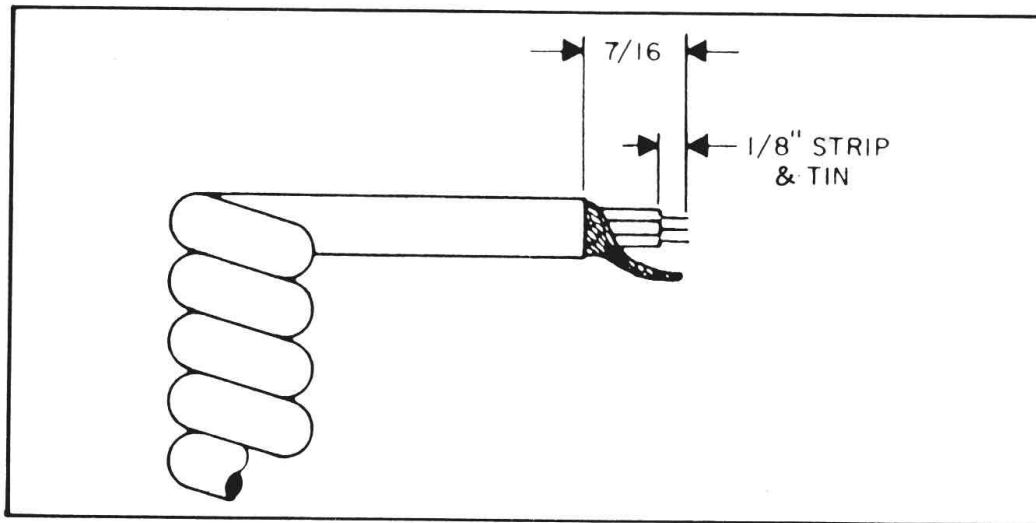

Fig. 1. Microphone cable preparation.
1. Cut leads so that they extend $7/16$ " beyond the plastic insulating jacket of the microphone cable. (See Fig. 1.)